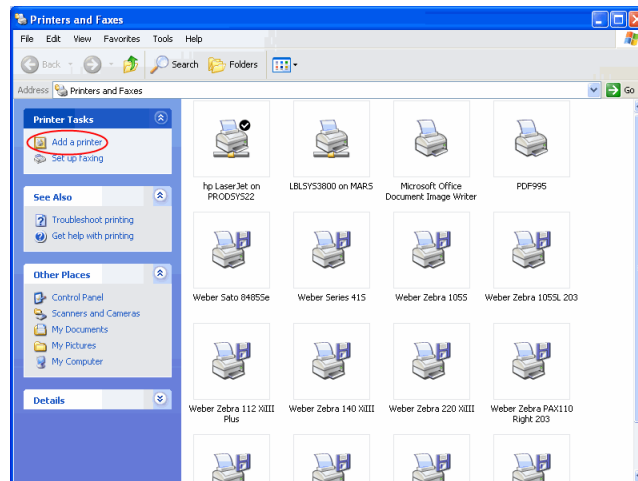

Figure 3-3
3.2.2. Open the *Printers and Faxes* area of Windows. (Figure 3-3)
3.2.3. Click the *Add a Printer* link. (Figure 3-3)